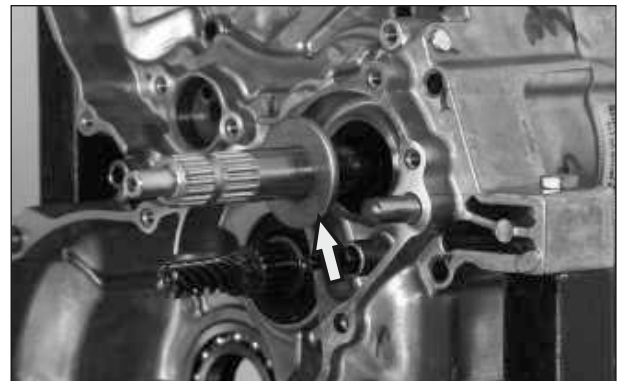

Fig. 3.78
- Take out the punched washer of 18X39X3 from shaft hand start. (Fig. 3.78)